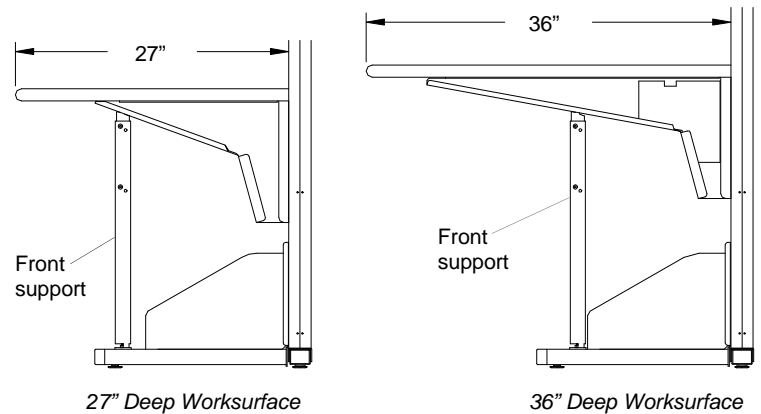

Figure 1
3. Slide the upper section up to engage the hooks with the appropriate access holes in the bottom of each top support. See figures 1 and 3.